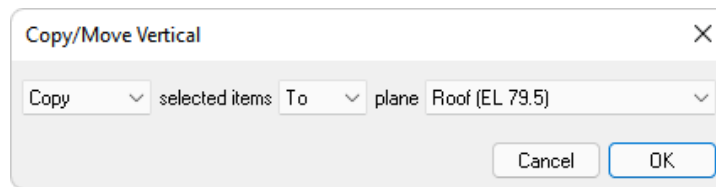

FIGURE 10-34
- Go to *Modify* → *Copy/Move* and click on the **Vertical**  icon. This will open the *Copy - Move* window as shown in **FIGURE 10-34**.